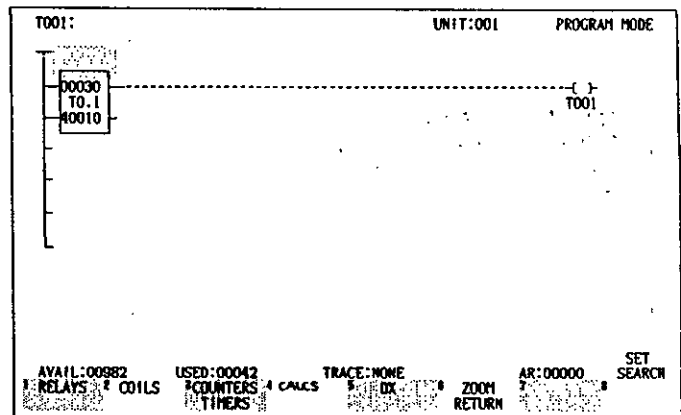

Fig. 6.115
3. To return to the SFC screen from the display of Fig. 6.115, enter S000 at AR and depress **ERASE GET** key to recover the master view. To recover the expanded view, enter the step number of the expanded view at AR and depress **ERASE GET** key. The zoom function (depressing **ZOOM RETURN**) key is also available for the return.